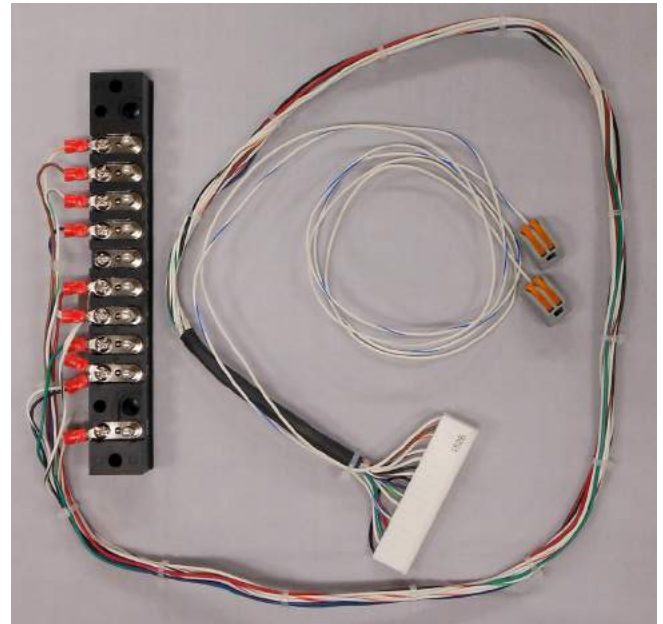
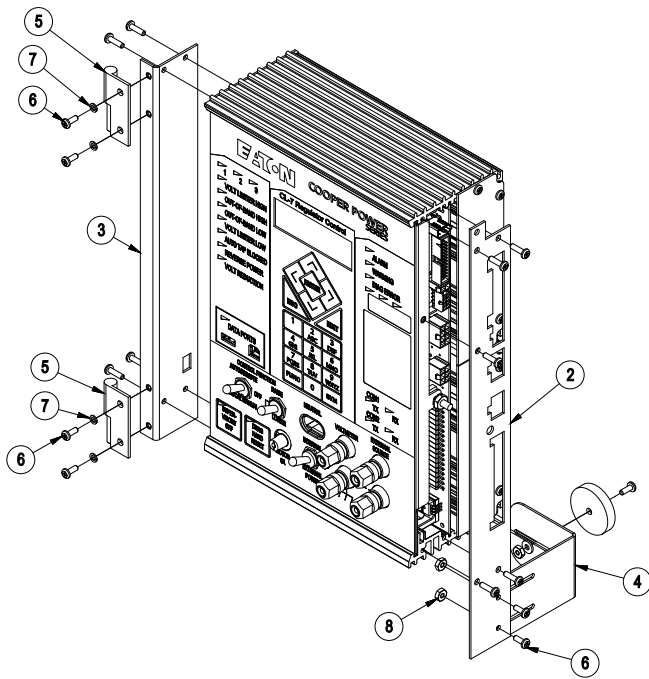

Figure 16. Siemens Corporation wiring harness for the CL-7 control (Item 1)
Figure 18. Installing hinge and bracket assemblies
Note: If the Siemens Corporation style wiring harness (**Figure 16**), hinge and magnet assemblies (**Figure 18**) have already been installed on the control, proceed to **Step 14**.
Note: The Siemens harness may be equipped with two wires colored white and white/blue with two-terminal connectors as shown in **Figure 16**. The wires are for connection to the CL-7 control general purpose inputs (GPIs). The wires can be used for analog voltage reduction or other programmable functionality. See document MN225003EN, *CL-7 Voltage Regulator Control Installation, Operation, and Maintenance Instructions* for more information on the GPIs.
3. Install the left hinge bracket (Item 3) using the screws retained from the last step. See **Figure 18**.
4. Install the hinges (Item 5) using the provided screws and washers (Items 6 and 7). See **Figure 18**.
8. Install the right face plate to the side of the control using the screws retained from **Step 5** and the last step. See **Figure 18**.
13. Install the Siemens Corporation retrofit kit magnet assembly (Item 4) as shown in **Figure 18** using the provided hardware (Items 6 and 8).